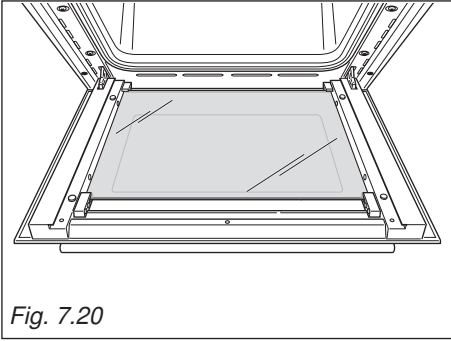

Fig. 7.20
- Gently unlock the middle pane of glass from the bottom clamps by moving it as in fig. 7.20.